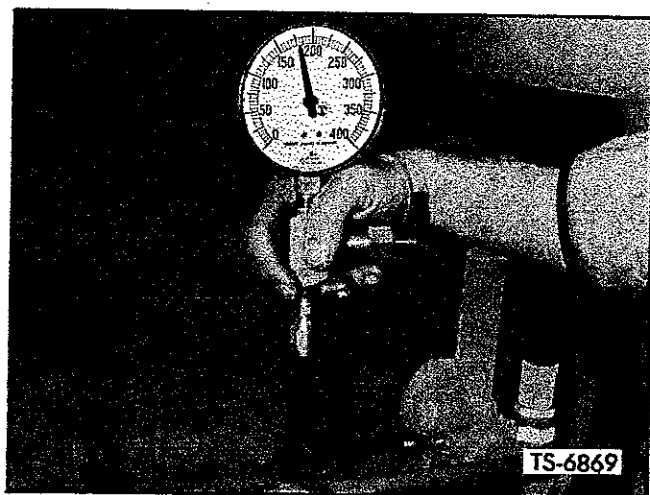

Fig. 31. Check Pressure — Transmission Clutches
1. Install an accurate gauge (0 to 400 psi capacity) at the pressure regulator valve assembly as shown in Figure 31.